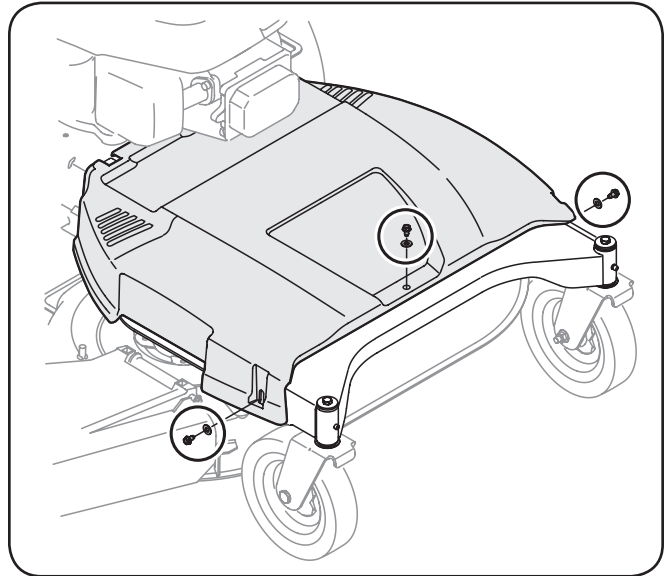

Figure 6-5
1. Remove the belt cover by removing the three screws and washers which secure it to the frame. See Figure 6-5.